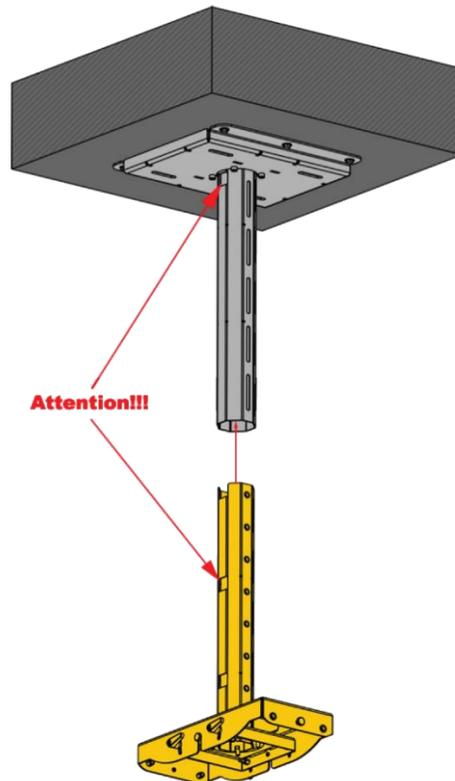

Figure 82:
Step 8: Insert the lower tube ③ into the upper tube ②. Please note that for correct alignment/installation of the upper and lower tubes, the rectangular holes must match, as shown in **Figure 82**.